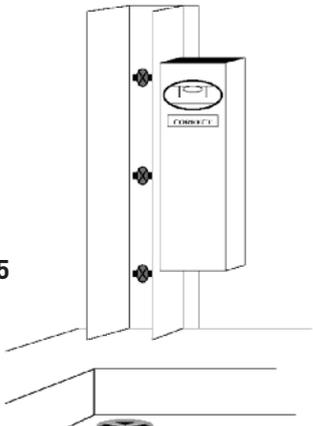

Figure a5
5. Wall Profiles will only be completely vertical when the spirit level bubble is in the centre of the two lines as shown in the picture (**Figure a5**). **ALWAYS FOLLOW THIS PROCEDURE.**
②	Are the Wall Profiles fitted approx. 15mm in from the front outside edge of the Tray?
③	Are the Wall Profiles completely vertical? (Figure a5)